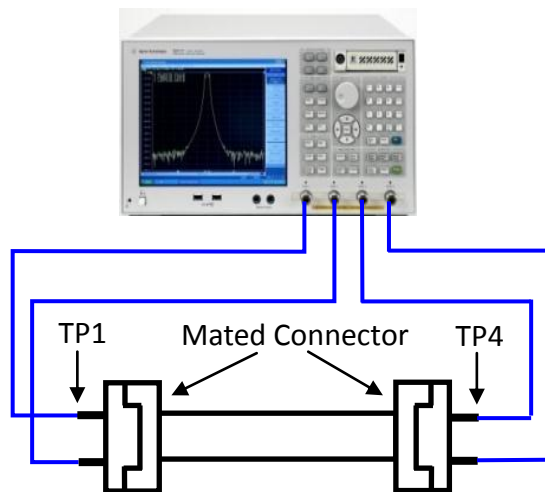

Figure 5-1 Characteristic Impedance Test Setup
1. Connect the E5071C and the test fixture with the RF cables (Figure 5-1).
1. Connect DUT to the test fixtures with the RF cables (Figure 5-1).
1. Connect the E5071C and the test fixtures with the RF cables (Figure 5-1).
1. Connect the E5071C and the test fixture with the RF cables (Figure 5-1). The physical connections for the NEXT measurements depend on the manufacture's backplane configuration.